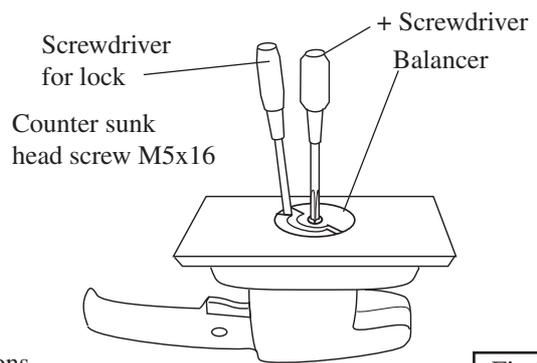

Fig.2.
(2) Lock balancer with screwdriver.
And loosen counter sunk head screw to the halves not to damage on the thread of the screw in the process (3) as illustrated in Fig.2.
(5) Lock balancer with screwdriver. Fasten the balancer with counter sunk head bolt M5x16 firmly as illustrated in Fig.2.